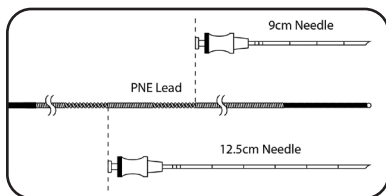

Figure 6. Insert the PNE lead until the appropriate depth marker is aligned with the hub of the foramen needle.
2. Insert the PNE lead into the foramen needle. Align the appropriate depth marker on the PNE lead with the top of the foramen needle (**Figure 6**). The distal electrode of the PNE lead will extend from the needle tip when the lead marker is aligned with the needle.